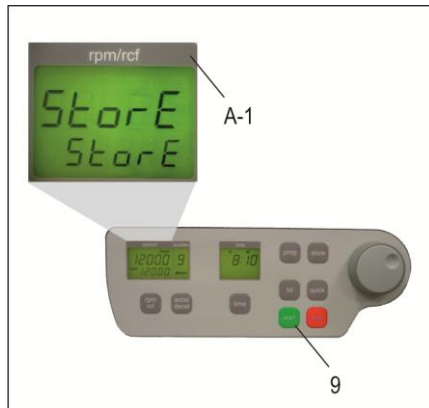

Figure 3
- All changed settings must be confirmed by the key, "start" (9). A confirmation screen will appear with the word; "store" in the display box, "rpm/rcf"(A-1) - Only then, the pre-selections are valid, (see Figure 3).